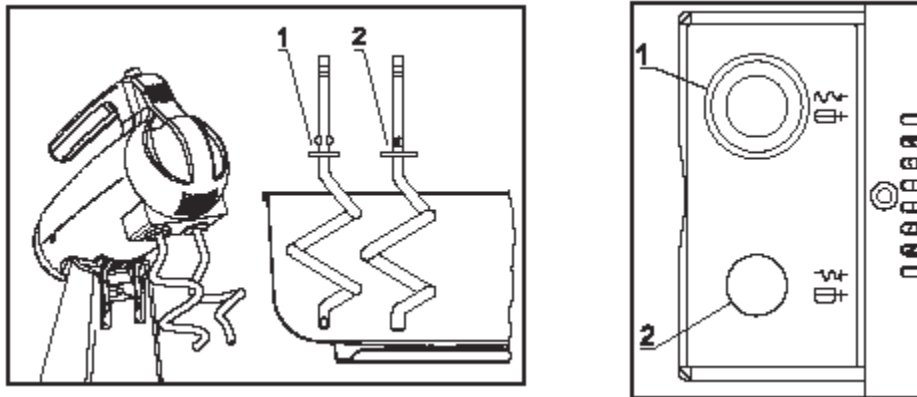

Figure 6: Attaching Dough Hooks to the Mixer Head.
7. **Follow these instructions when inserting dough hooks because each hook fits only in its specified socket. Figure 6 illustrates the appropriate sockets for each hook.**